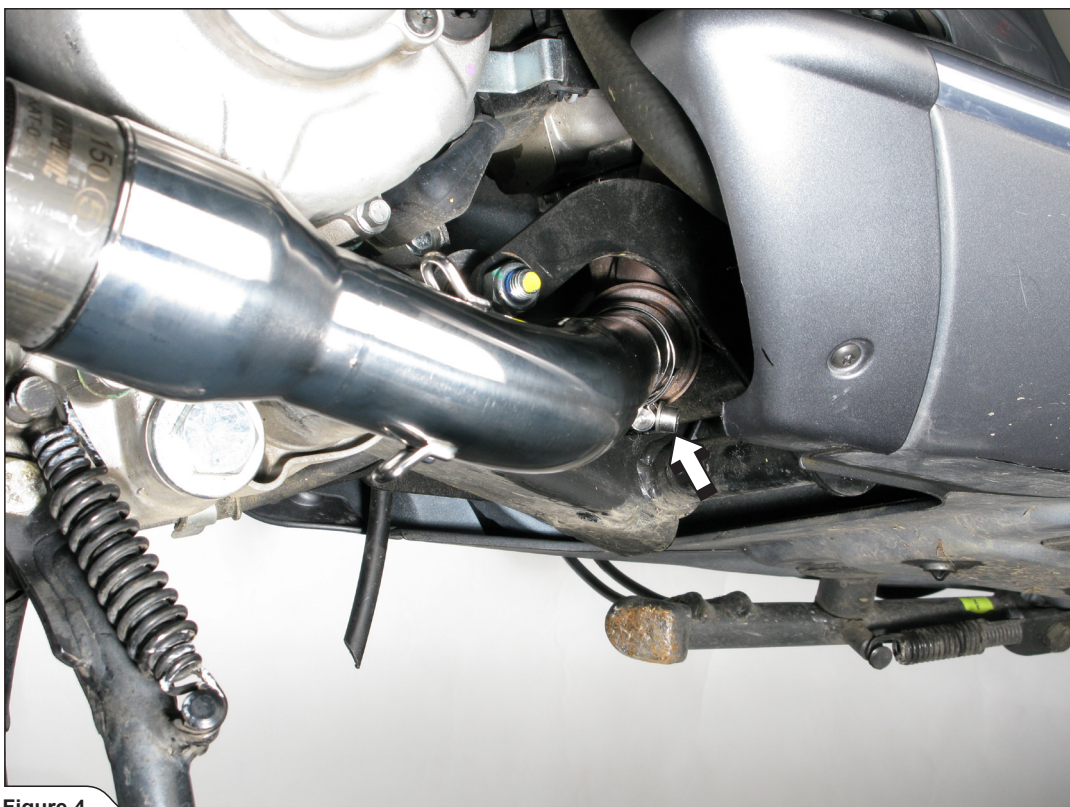

Figure 4
2. Correctly position and slide the Akrapovič link pipe onto the stock header and hand tighten the metal clamp (Figure 4).